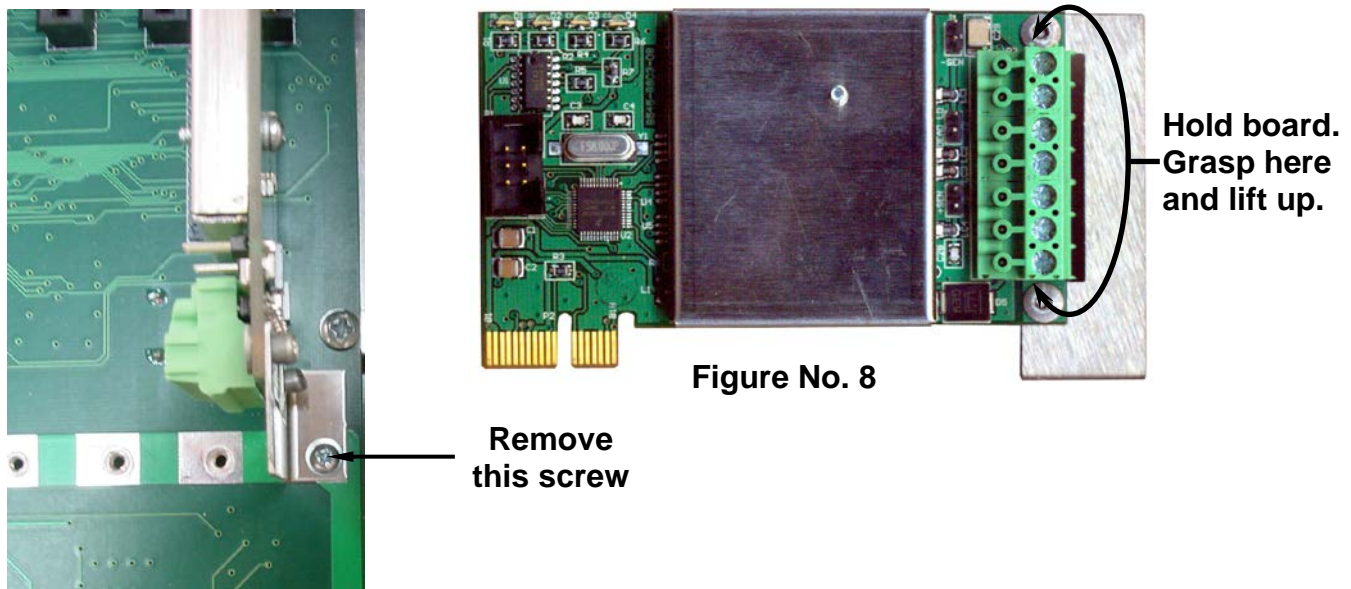

Figure No. 5
3. Referring to Figure No. 5, route the single cable from the load cell or load cell junction box through the nut and plastic insert and into the base enclosure.